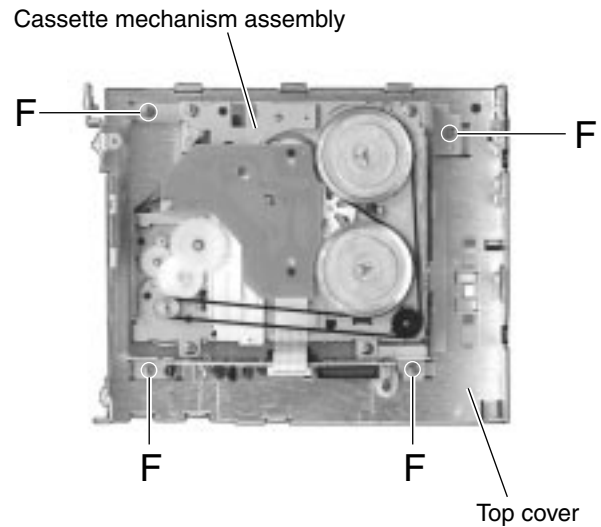

Fig. 9
■ Removing the cassette mechanism assembly (See Fig.9)